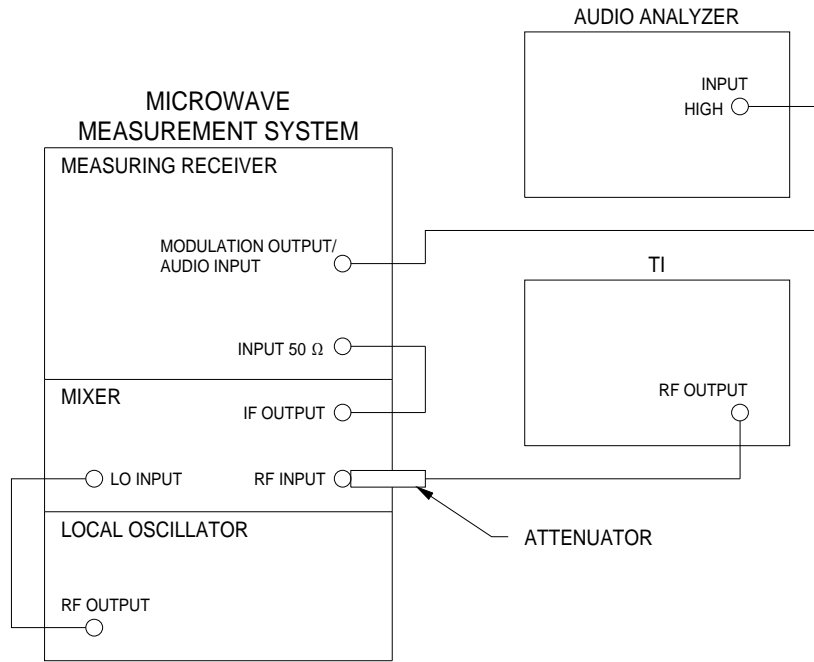

Figure 4.
4.6.2 Connect equipment as shown in Figure 4.